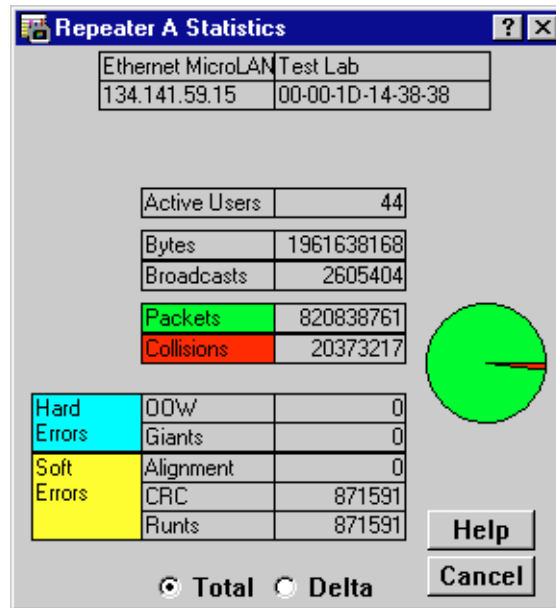

Figure 5-1. The Repeater Statistics Window
3. Click on **Statistics**. The Repeater Statistics window, **Figure 5-1**, will appear.
The Module and Port Statistics windows are the same as the Statistics window displayed in Figure 5-1, except that they display statistics applicable to the module or port.